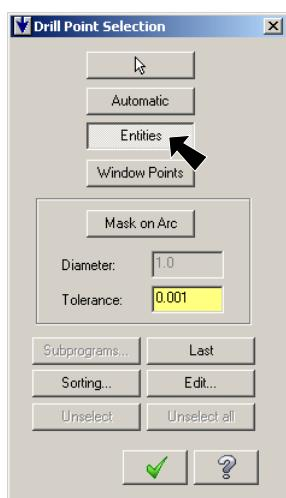

Fig. 93
Step 3. Click **Entities** button in Drill Point Selection dialog box, Fig. 93.